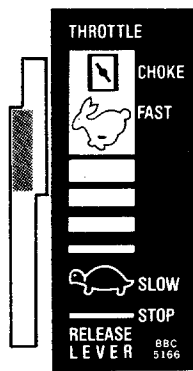

FIGURE 6.
9. Move throttle control lever on handle forward until it stops in FAST position. (**Do not** push all the way forward to CHOKE position.) See figure 6.